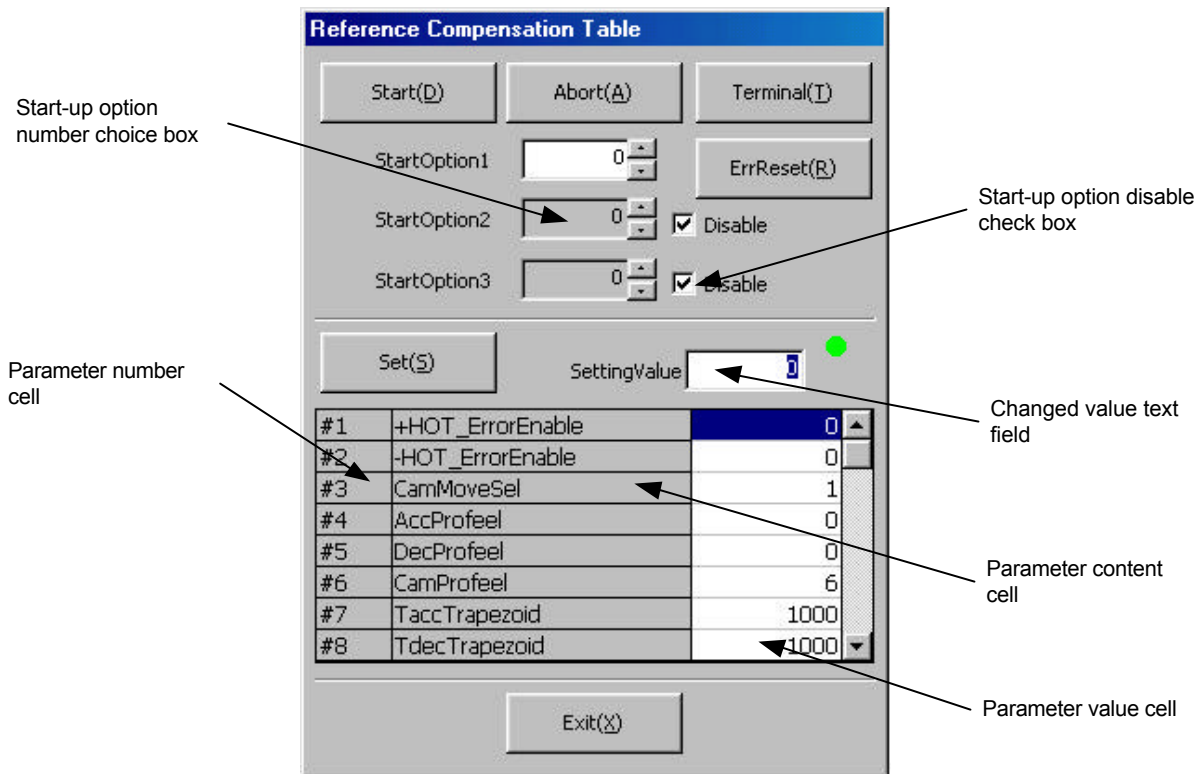

Figure 7.25 “Reference Compensation Table” dialog box
Click “ReferenceTable (R)” in the “DriveMenu” dialog box to display the “Reference Compensation Table” dialog box (see Figure 7.25). If the connection with the driver is established, the current values of the related parameters are read and can be edited.